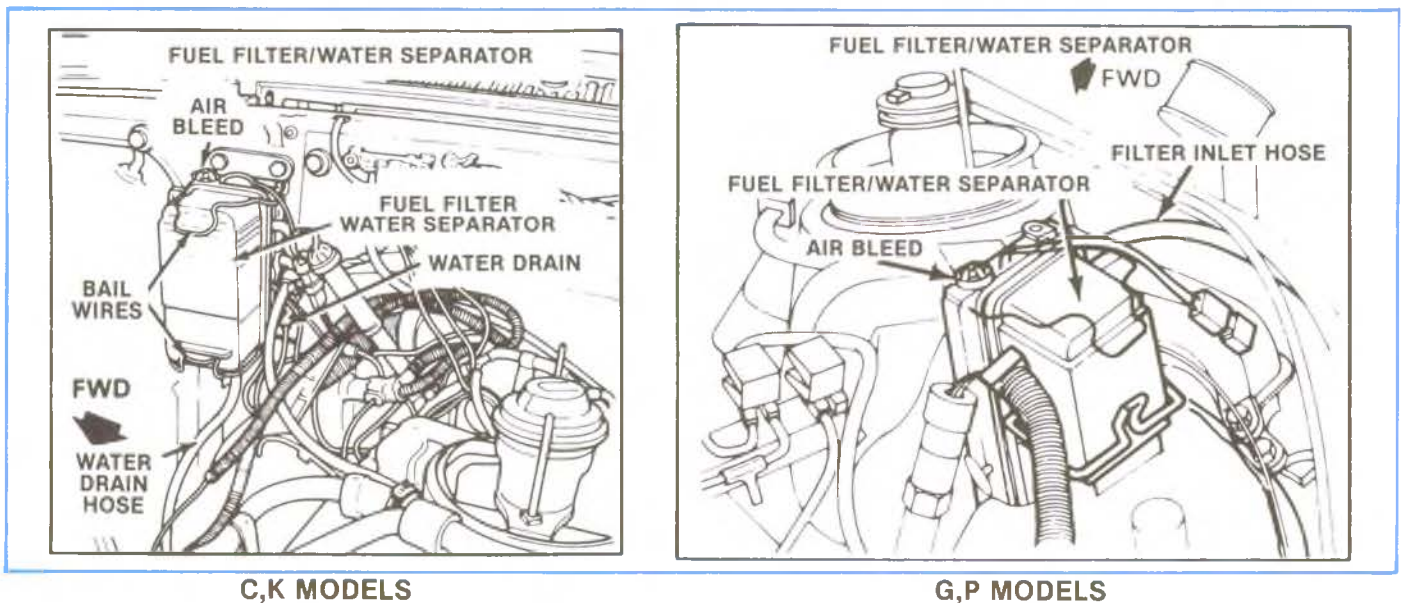

Figure 4-27, Electrical Connections, Fuel Filter/Water Separator.
To determine which sensor may be at fault, first disconnect the vacuum sensor. To distinguish the electrical leads, refer to Figure 4-27. The vacuum sensor has two wire leads with a black connector. (The "WATER IN FUEL" sensor has four wire leads with a black connector, and the fuel heater has two wire leads with a white connector.)
- 4) Using a small screwdriver, pry the vacuum sensor retaining clip from the base (Reference Figure 4-27). Take care to prevent damage to the bore. It is suggested that initially prying the clip upwards at the wire lead protective tab will cause the least amount of scoring to the base bore.
- 7) If burrs are present, use a fine (300) grit paper or round stone to remove any sharp metal burrs or scratches in the bore. This is to prevent harm to the sensor "O" ring seal during installation. Take care to prevent debris from entering the hole at the bottom of the bore when performing this service.